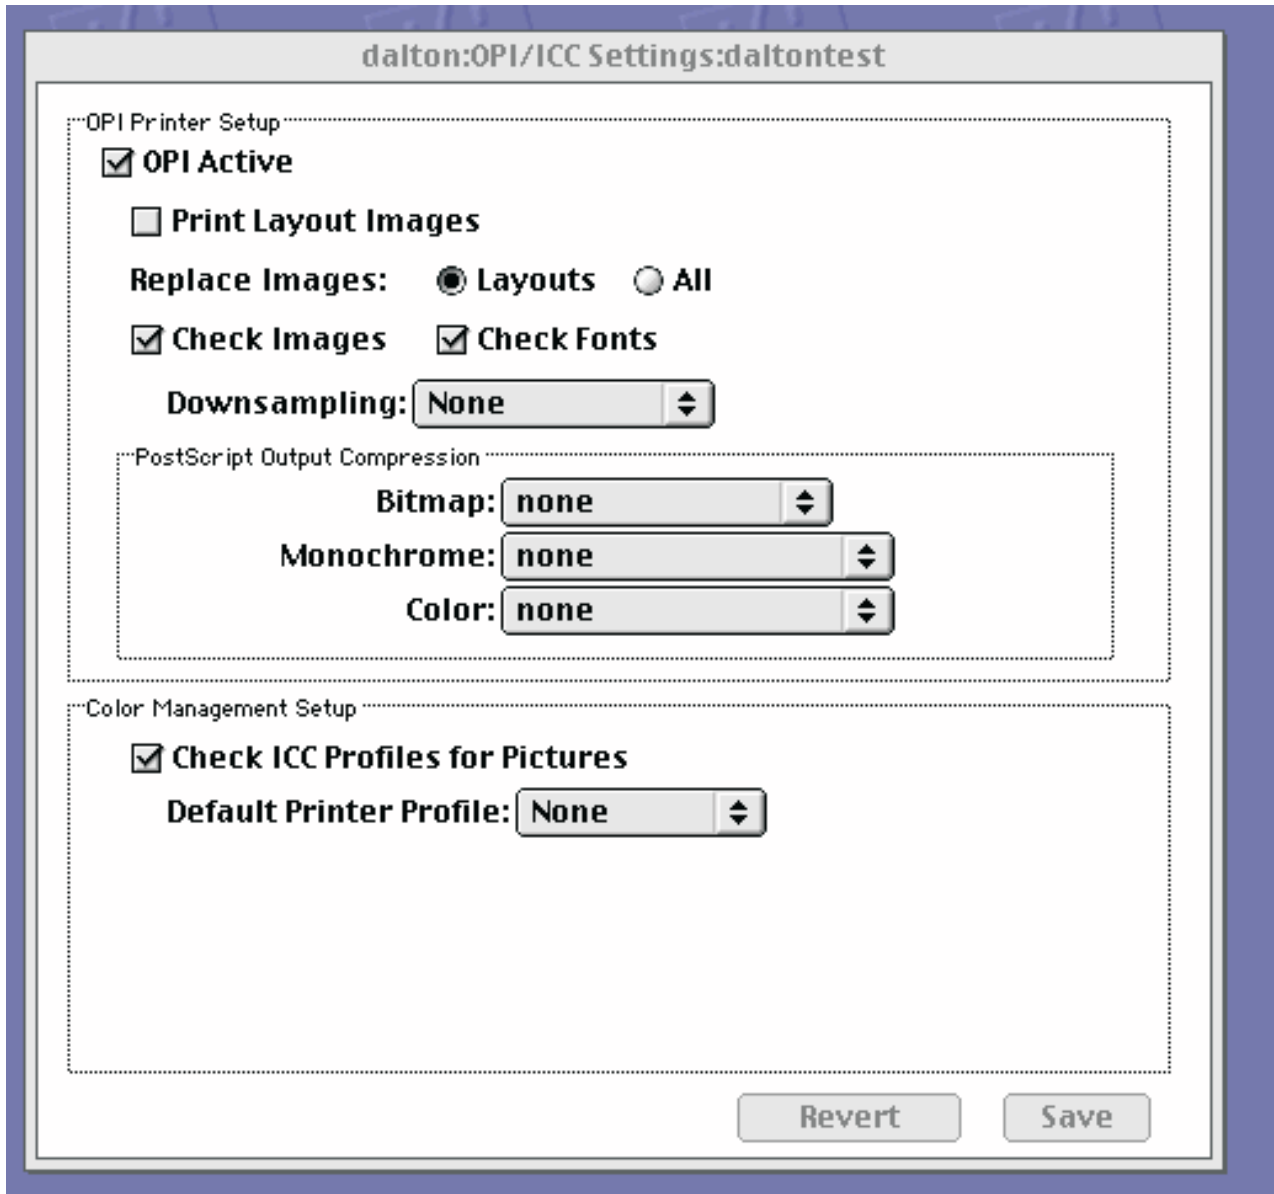

Figure 37. OPI/ICC Settings window
7. From the dialog (displayed in Figure 37 on page 148), ensure that the **OPI Active** checkbox is checked.
- Checking the OPI/ICC Settings on the Helios print queue (see Figure 37 on page 148). Ensure that the check boxes for **OPI Active**, **Check Images**, **Check Fonts**, and **Check ICC Profile for Pictures** have all been checked. If any are unchecked, check those check boxes, save the settings, and try running the jobs again.